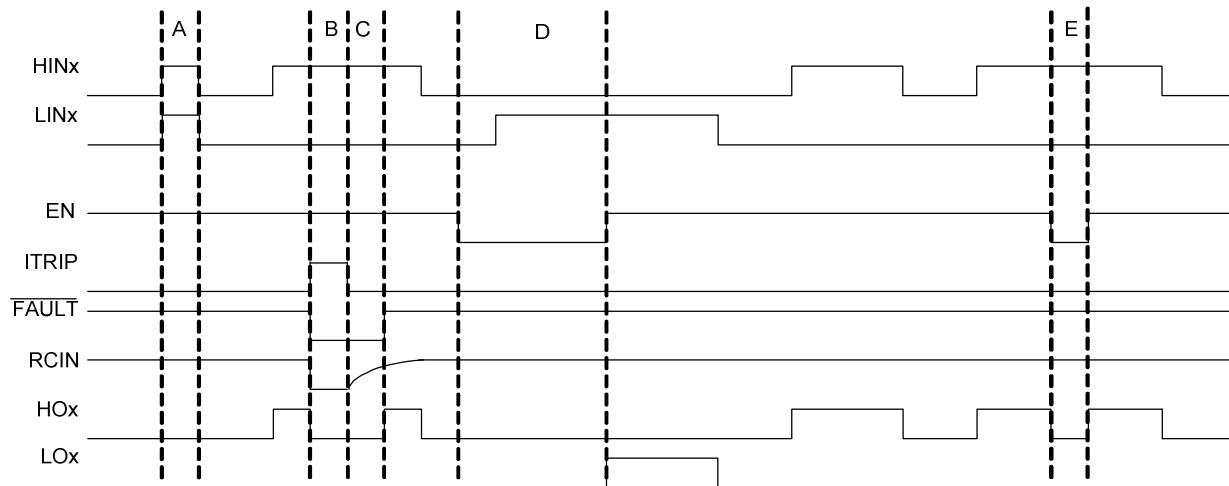

Figure 4: Input/output timing diagram
During interval A of Figure 4, the HVIC has received the command to turn-on both the high- and low-side switches at the same time; as a result, the shoot-through protection of the HVIC has prevented this condition and both the high- and low-side output are held in the off state.
Interval B of Figures 4 and 5 shows that the signal on the ITRIP input pin has gone from a low to a high state; as a result, all of the gate drive outputs have been disabled (i.e., see that HOx has returned to the low state; LOx is also held low), the voltage on the RCIN pin has been pulled to 0 V, and a fault is reported by the FAULT output transitioning to the low state. Once the ITRIP input has returned to the low state, the output will remain disabled and the fault condition reported until the voltage on the RCIN pin charges up to  $V_{RCIN,TH}$  (see interval C in Figure 6); the charging characteristics are dictated by the RC network attached to the RCIN pin.
During intervals D and E of Figure 4, we can see that the enable (EN) pin has been pulled low (as is the case when the driver IC has received a command from the control IC to shutdown); this results in the outputs (HOx and LOx) being held in the low state until the enable pin is pulled high.